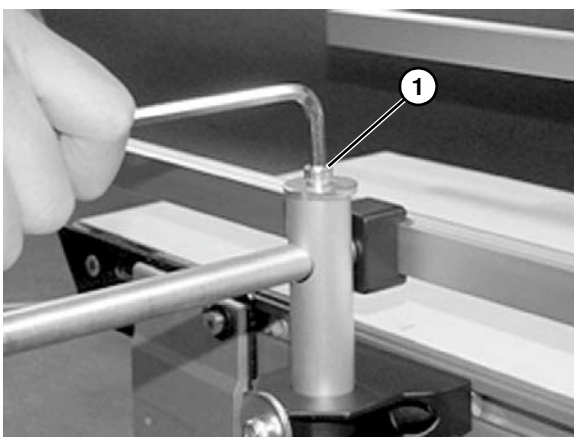

Figure 35
6. Adjust rail width with top screw (**Figure 35, item 1**).